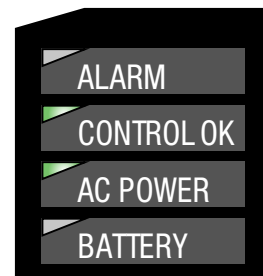

Figure 42. BATTERY alarm LED.
- During a battery test a 5Ω, 55 watt resistor is placed across the battery terminals for approximately 5 seconds. The SPEAR single-phase recloser control measures the battery voltage, if the voltage drops below 22.8 VDC the BATTERY LED illuminates (Figure 42) and a battery alarm is issued, if configured, at the end of the test.